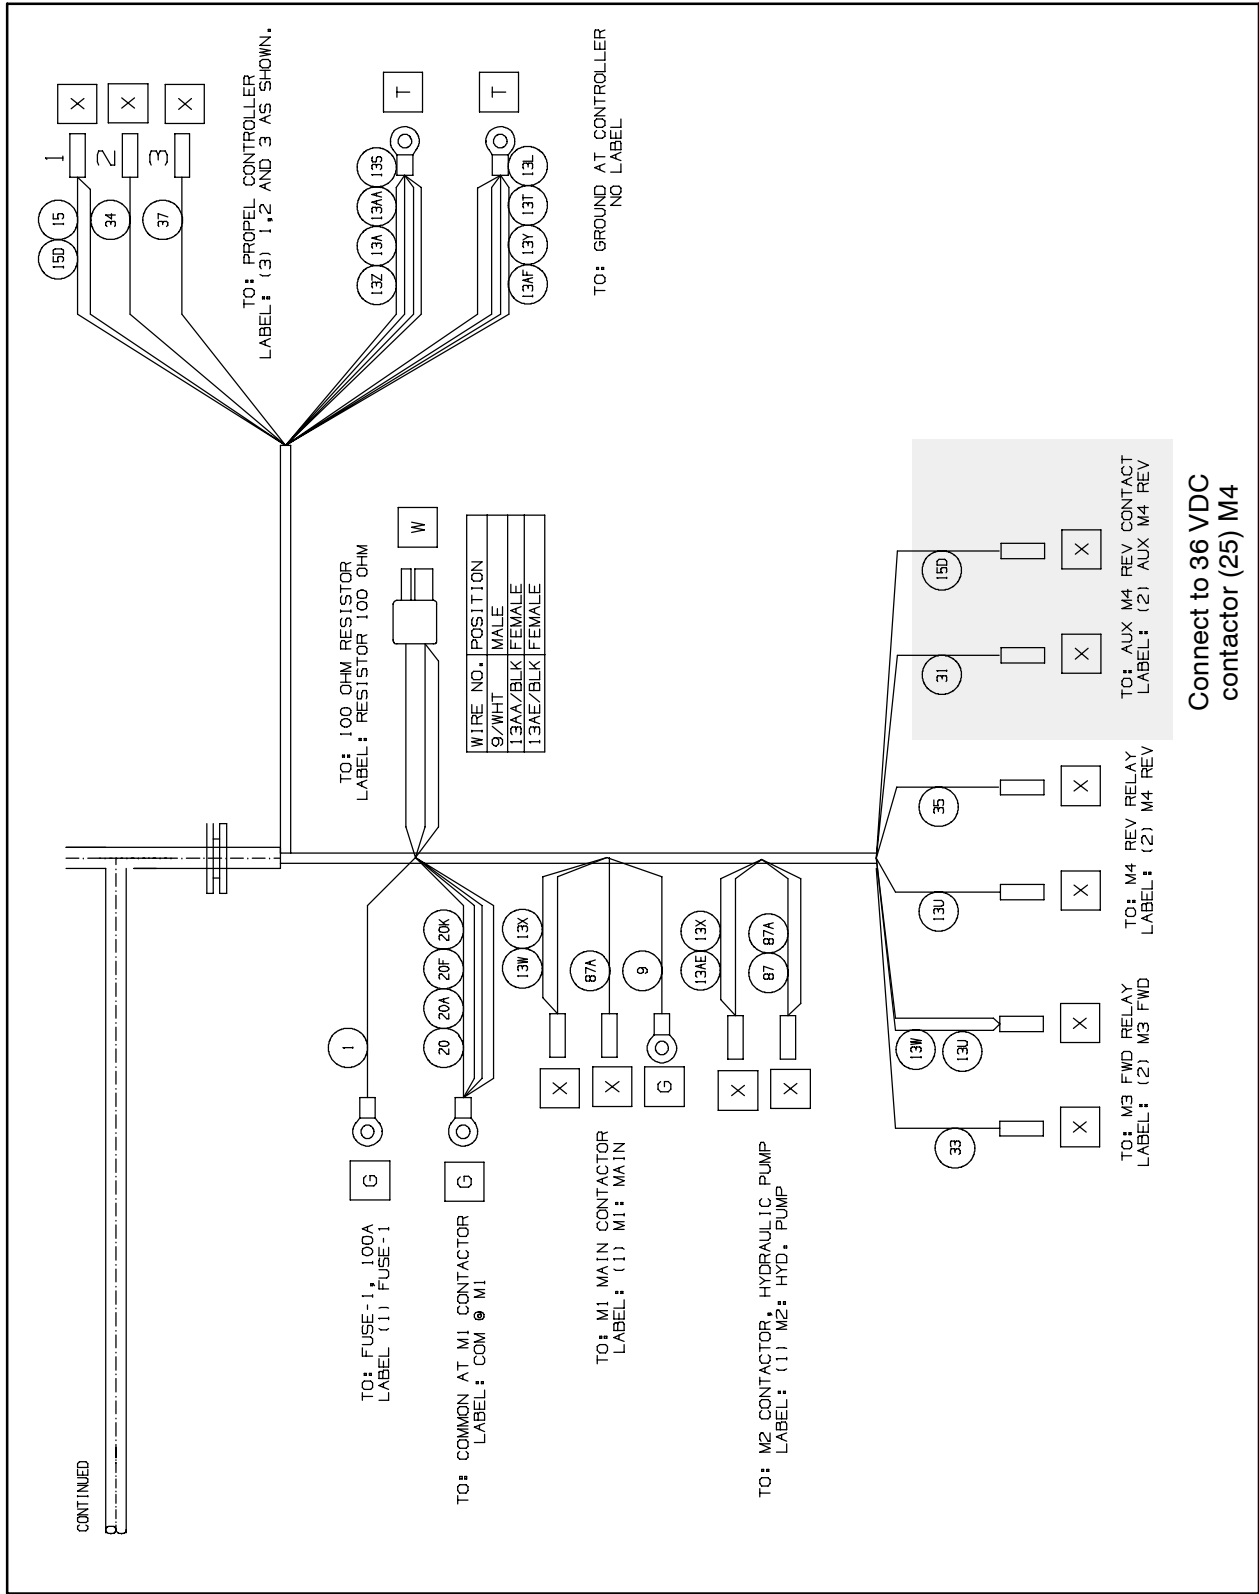

FIG. 14
24. Connect the auxiliary leads on the main wire harness to the 36 VDC contactor (25) M4. Refer to Fig. 9 and Fig. 14.